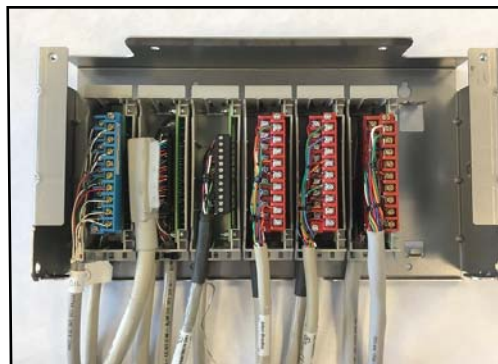

Figure 6b
- b) Repeat step a until all of the field wiring terminal block and conversion modules are connected. (See figure 6b)